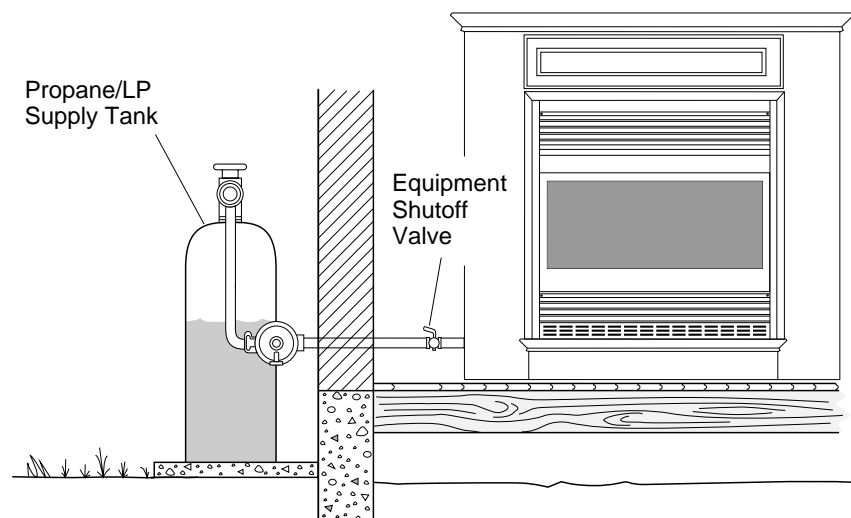

Figure 28 - Checking Gas Joints Shown with Optional Mantel
3. Check all joints from propane/LP supply tank to equipment shutoff valve (see Figure 28). Apply a noncorrosive leak detection fluid to gas joints. Bubbles forming show a leak.
4. Check all joints from equipment shutoff valve to thermostat gas valve (see Figure 28). Apply a noncorrosive leak detection fluid to gas joints. Bubbles forming show a leak.